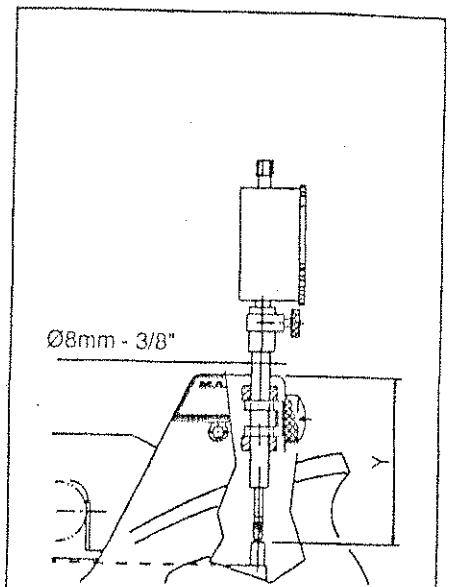

Fig.8
- 2) Mount the dial indicator with the contact extension on adapter H1 and lock it. Be sure value X is always higher than value Y (fig. 8). The value depends on the measuring travel interval of the dial indicator where you wish to work.